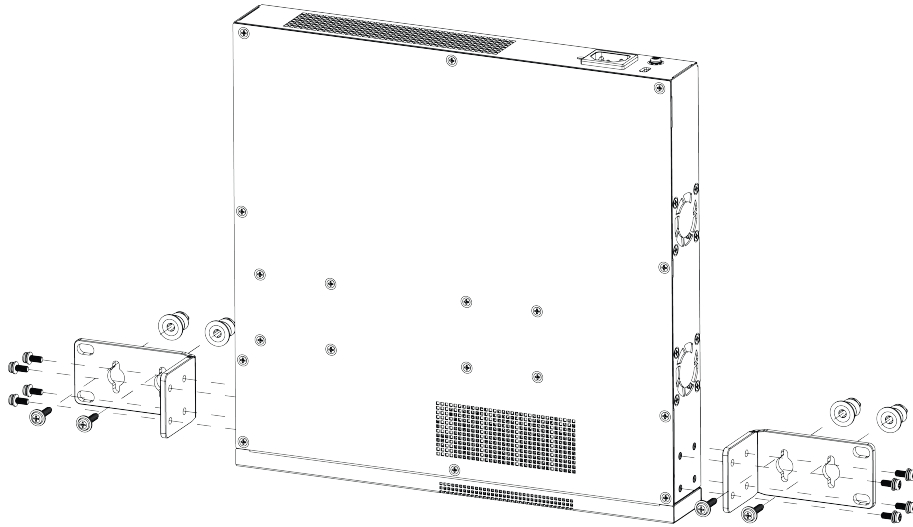
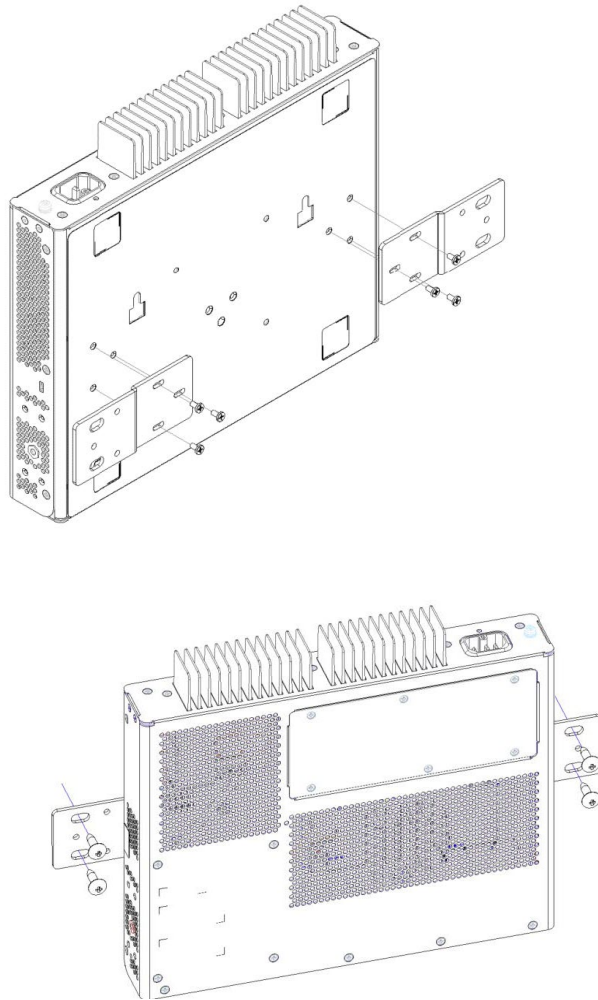

Figure 50: Wall-Mount: Attaching 1U mounting ears to 5320-24T-4X-XT and 5320-24T-24S-4XE-XT
Figure 52: Wall-Mount: Attaching mounting ears to 5320-16P-2MXT-2X and the wall
4. Using rack mount screws, attach a wall-mounting ear to the left side of the switch, at the front end. Figure 50 and Figure 52 on page 72 show the attachment of the screws.